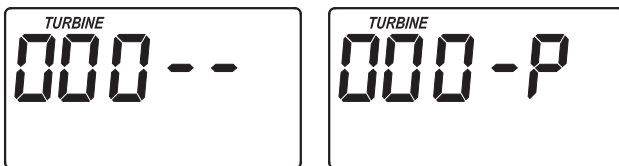

FIG. 21
1. Press and hold the SELECT button until one of the screens in Figure 21 is displayed. Once in this display, press the SELECT button once and one of the two displays in Figure 22 is shown.